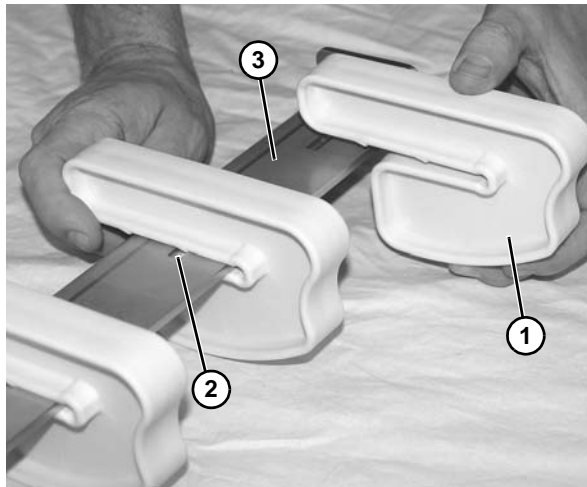

Figure 56
8. Slide off wear belt shoe (**Figure 56, item 1**) and replace if worn.
Make note of the notch (**Figure 56, item 2**) where each belt shoe seats onto support bracket (**Figure 56, item 3**).